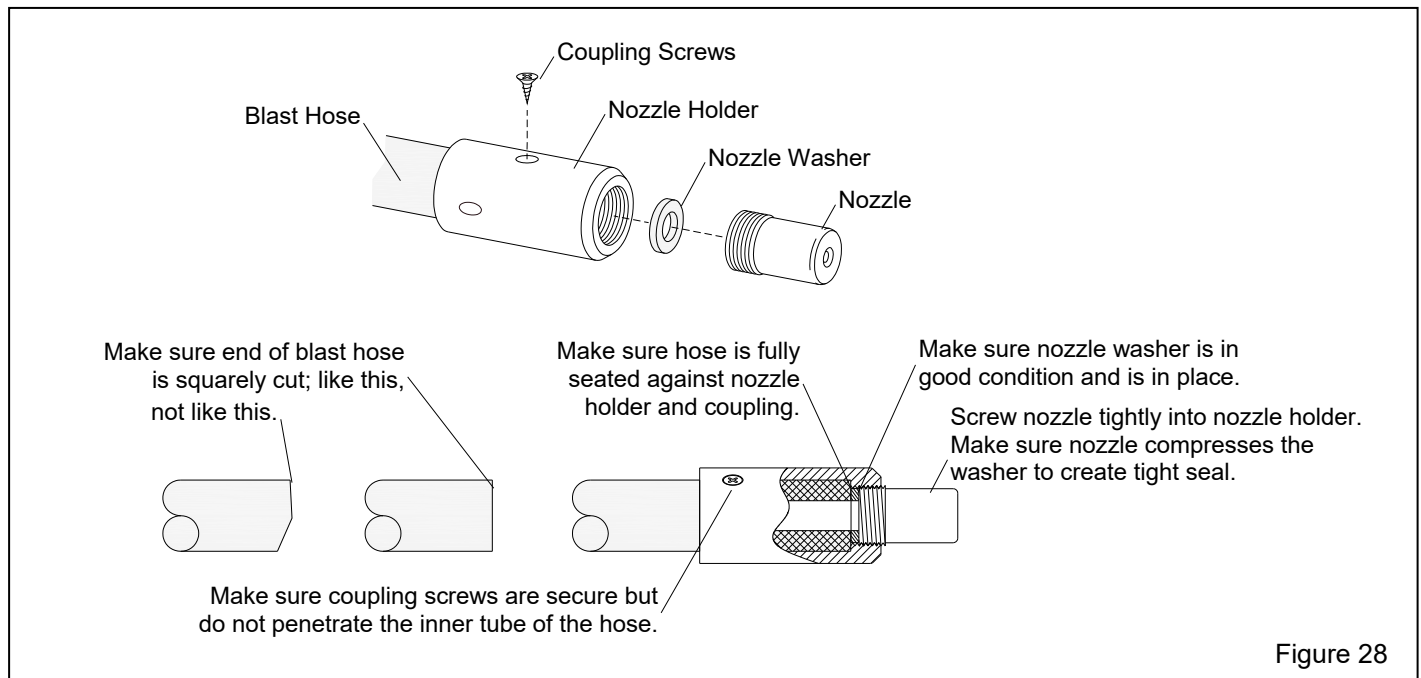

Figure 28
## 7.2 Blast Hose and Nozzle – Figure 28
7.2.2 When replacing blast hose, make sure the hose is square cut and that it is fully inserted into the nozzle holder and coupling until it sits tightly against the shoulder in the holder and coupling, as shown in Figure 28. Make sure correctly sized screws are used to secure the nozzle holder and blast-hose coupling. Screws should not penetrate the inside of the blast hose.